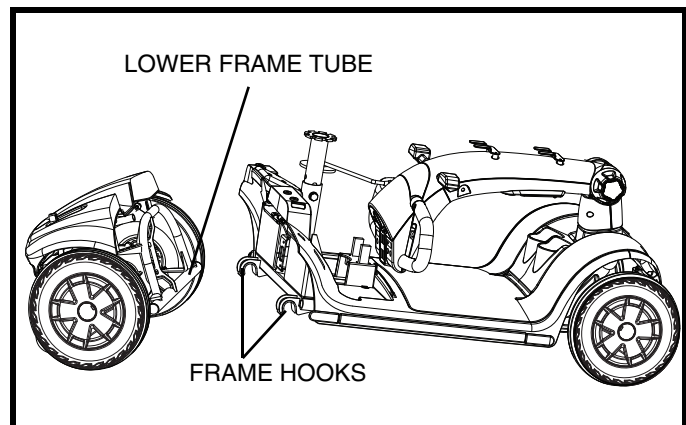

Figure 23. Frame Separation
4. Lift the front section up until the frame hooks of the front section separate from the rear section. **See figure 23.**
5. Slowly separate the two sections. **See figure 23.**
1. Position the front and rear sections of your scooter as shown in **figure 23**.
2. Use the frame release lever to lift the front section as you align the frame hooks of the front section with the lower frame tube of the rear section. **See figure 23.**